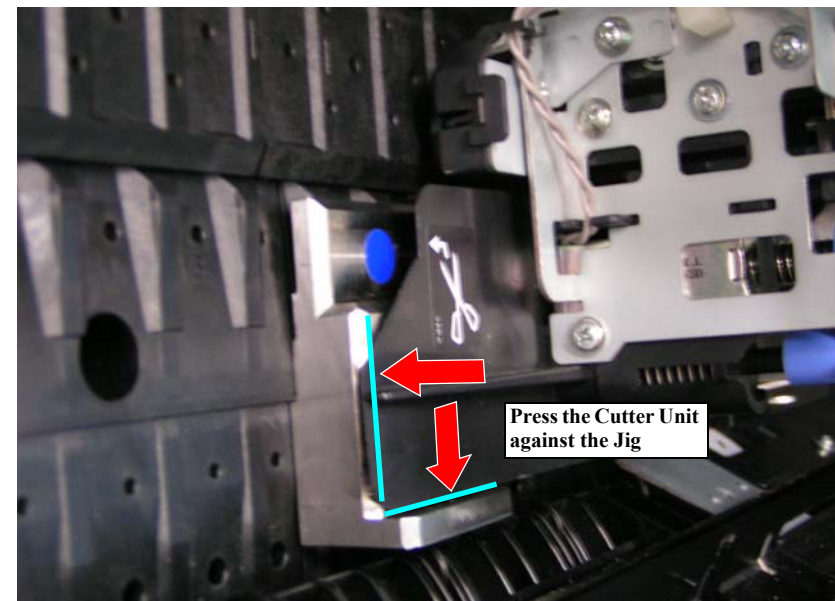

Figure 5-9. Cutter Position/Height Adjustment (2)
3. Adjust the position of the Cutter Unit so that its bottom and left edges align with those of the positioning jig, and press the unit against the jig to make them in absolute contact with one another as shown in Figure 5-9. Then secure the Cutter Unit with the screw loosened in Step 2.